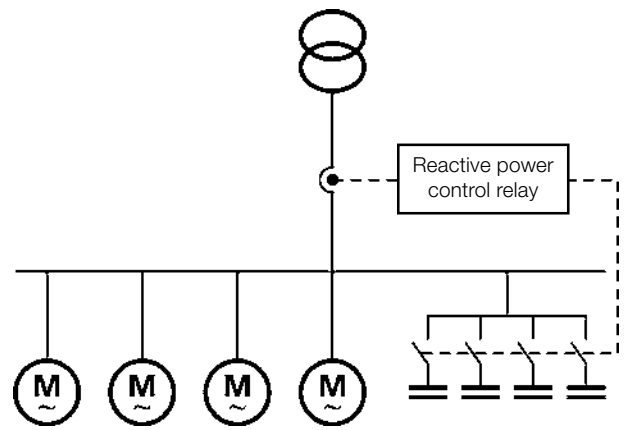

Fig. 1: Correct Current transformer installed to register load current plus capacitor current.
Note! The current transformer must be installed in any one of the three phases so that the entire current to the loads requiring power factor correction plus the capacitor current flow through it (refer to Figs. 1–3). Terminal P1 (K) is connected to the power supply side, terminal P2 (L) to the load side.